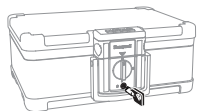

Figure 1.1
1. Insert key into lock cylinder (Figure 1.1).